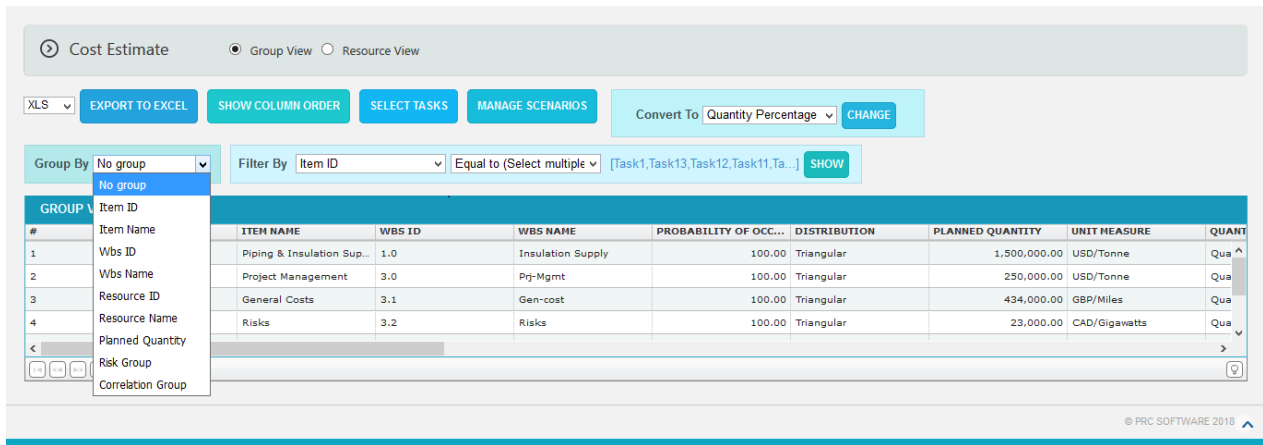

Figure 2.18
2. Click **Group By** dropdown and select the required group to view the tasks. (Figure 2.18)